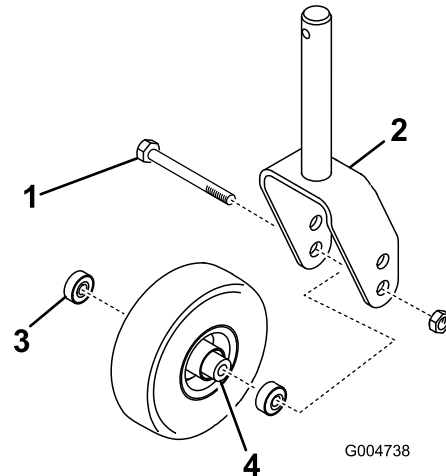
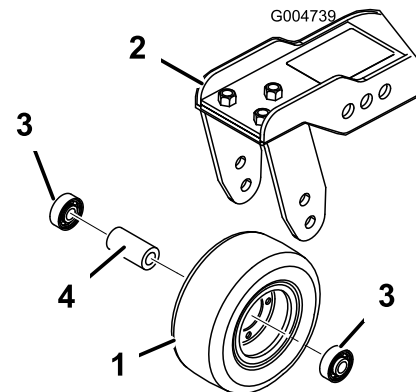

Figure 86
Figure 87
1. Remove the locknut from the bolt holding the caster-wheel assembly between the caster fork (Figure 86) or the caster-pivot arm (Figure 87).
2. Remove the bearing from the wheel hub and allow the bearing spacer to fall out (Figure 86 and Figure 87).